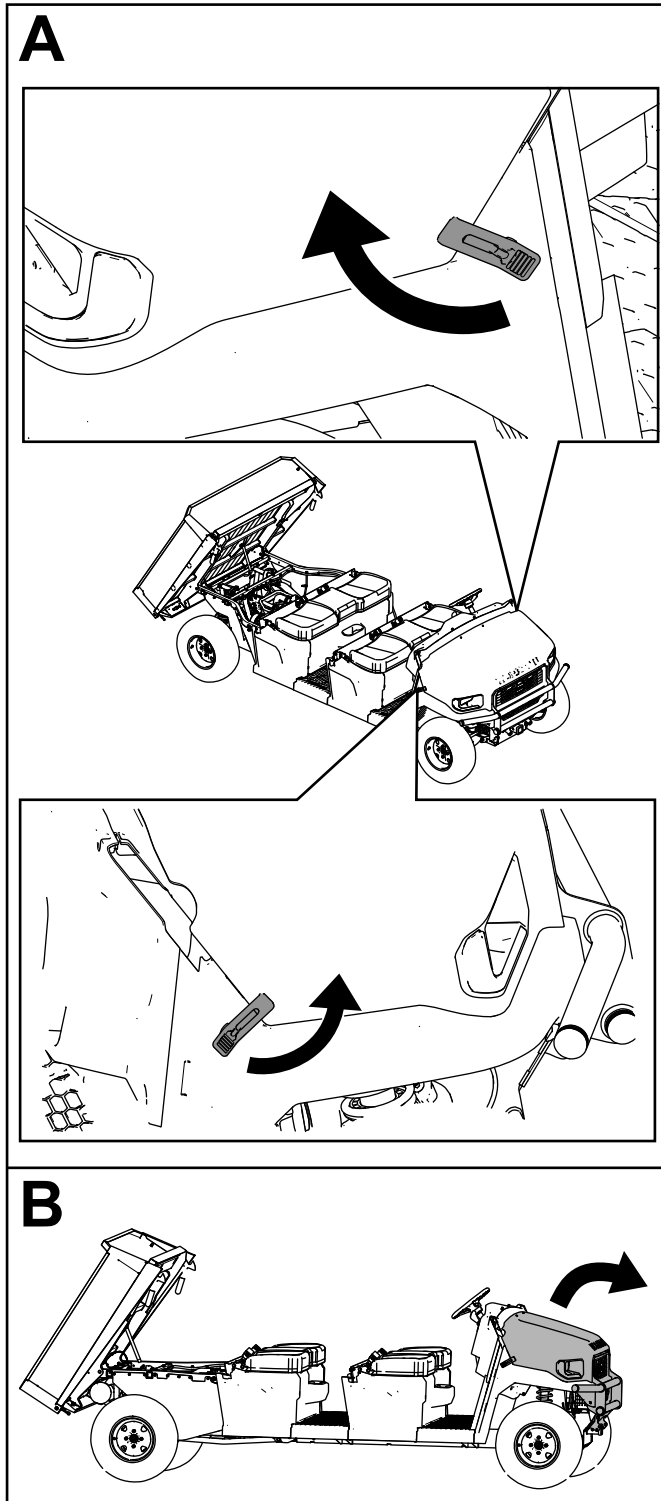

Figure 37
2. Raise the hood (Figure 37).